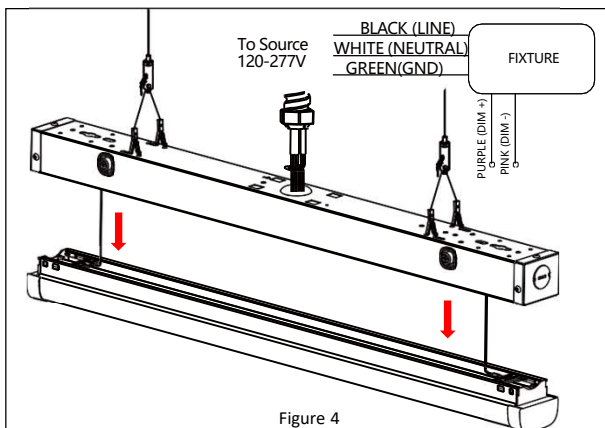

Figure 4
9. Using the supplied wire nuts, make the wire connections as per the wiring diagram in **Figure 4**.
9. Using the supplied wire nuts, make wiring connections as per the wiring diagram in *Figure 4.*